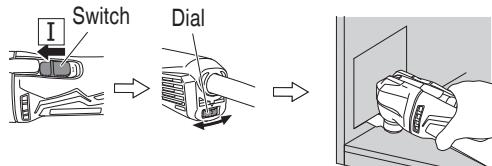

Fig. 6
- Switch the unit on and use the dial to set the speed of the application tool. (Fig. 6)
- Lightly place the application tool on the material and move the application tool forward at a pace where the movement isn't slowed. (Fig. 6)